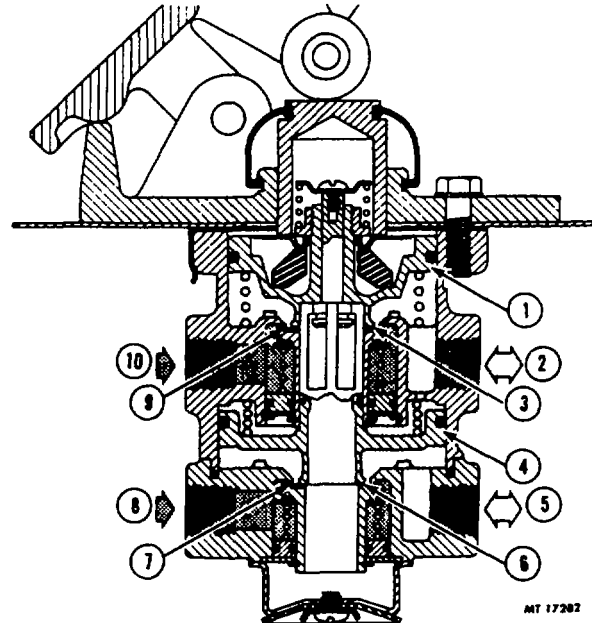

Fig. 6 Brake - Valve In Balanced Position
**Balanced - Primary Circuit of Brake Valve (Fig. 6)**
**Balanced - Secondary Circuit of Brake Valve (Fig. 6)**